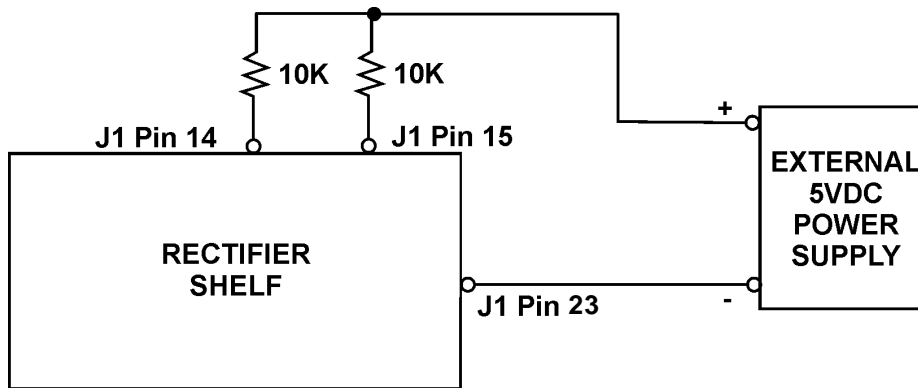

Figure 10. Checking AC Good and DC Good Outputs
- 20.8 Checking the AC Good and DC Good Outputs.** Connect the - lead of an external 5V power supply to Signal Common (J1 Pin 22). Connect one end of a 10K resistor to the + lead of the 5V supply and the other end to the AC Good output (J1 Pin 14). Connect one end of another 10K resistor to the + lead of the 5V supply and the other end to the DC Good output (J1 Pin 15). See Figure 10. Reconnect the Remote Enable wire. Measure the output voltage at both J1 Pins 14 and 15 with respect to Signal Common (Pin 22) with a digital voltmeter. Both voltages should be less than 0.5VDC, indicating a TTL LO.
- 20.9 Checking the Remote Adjust Input.** Connect a variable external power supply as shown in Figure 10. With the output voltage set to zero, check the output voltage of the rectifier module with a digital voltmeter. For a 48V unit it should be approximately 47V and for a 24V unit it should be approximately 23.5V. Next, adjust the supply output to +5V and check the output voltage of the rectifier module. For a 48V unit it should be approximately 57V and for a 24V unit it should be approximately 28.5V. Unplug the external 5V supply and unplug the AC input to the rectifier shelf.